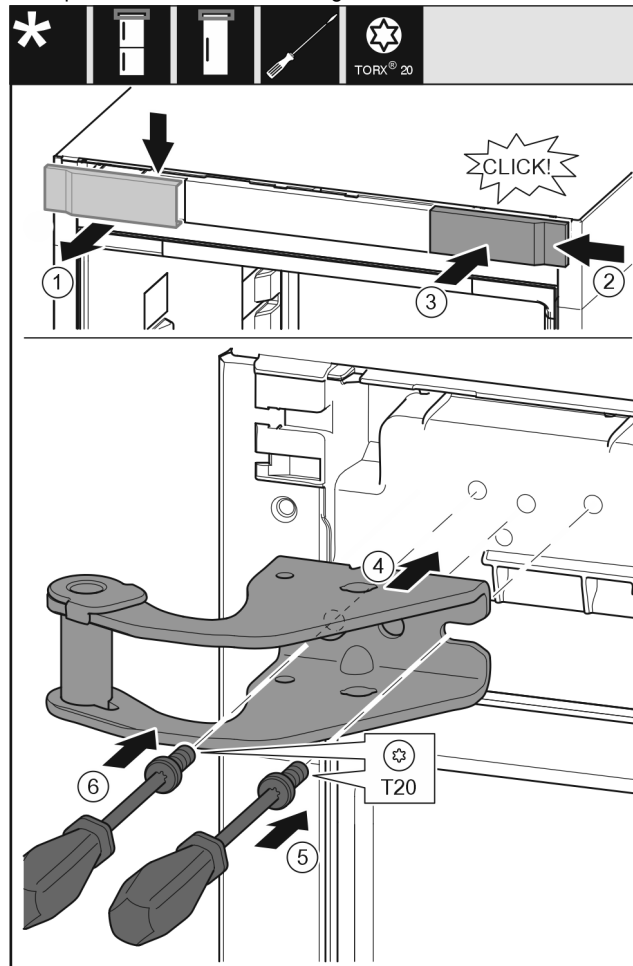

Fig. 10
- Take off the cover from above to the front. Fig. 10 (1)
- Rotate the cover 180° and clip onto the other side from the right. Fig. 10 (2)
- Latch the cover into place. Fig. 10 (3)
- Position the upper bearing bracket. Fig. 10 (4)
- Insert the screw with a T20 screwdriver and tighten it. Fig. 10 (5)
- Insert the screw with a T20 screwdriver and tighten it. Fig. 10 (6)